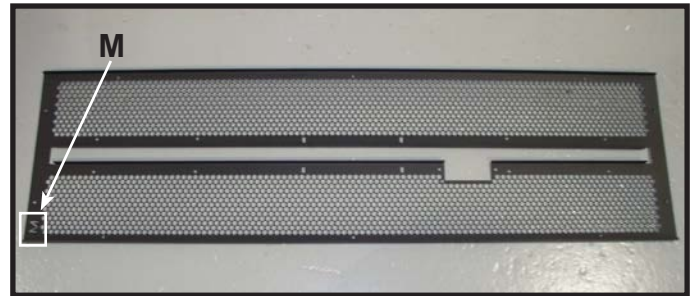

Figure 5. Base Pan
1. Verify the correct base pan is in the appliance before proceeding with the porcelain installation. The base pan required for this application has the letter "M" stamped in it. See Figure 5. If the base pan does not have the letter "M" stamped in it, contact your dealer.